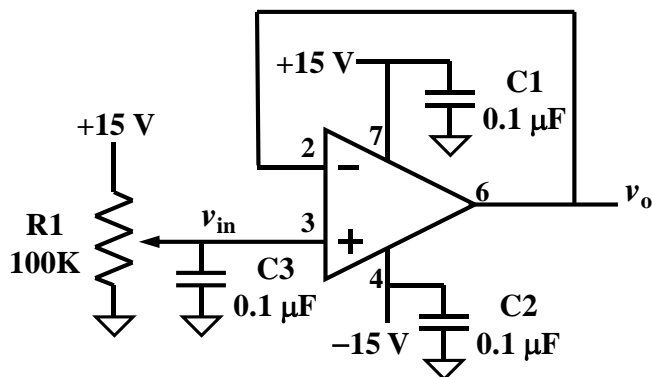

Fig. 7. Fifth op-amp circuit.
6. Consider the fifth circuit in Fig. 7.